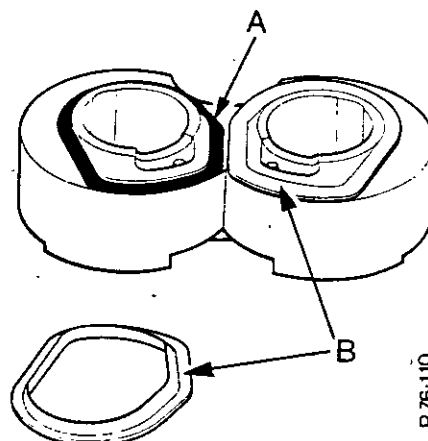

FIGURE 20. ASSEMBLY OF THE PUMP BEARINGS AND SEALS
2. Put the bearing for the flange end on the working surface as shown in Figure 20. The flats on the bearings must be together with lugs at the same side. Put a little grease on the lobe seal and fit it in position. Fit the backing washers on the inside of the lobe seal. The top surface of the backing washers must be level with the top surface of the lobe.